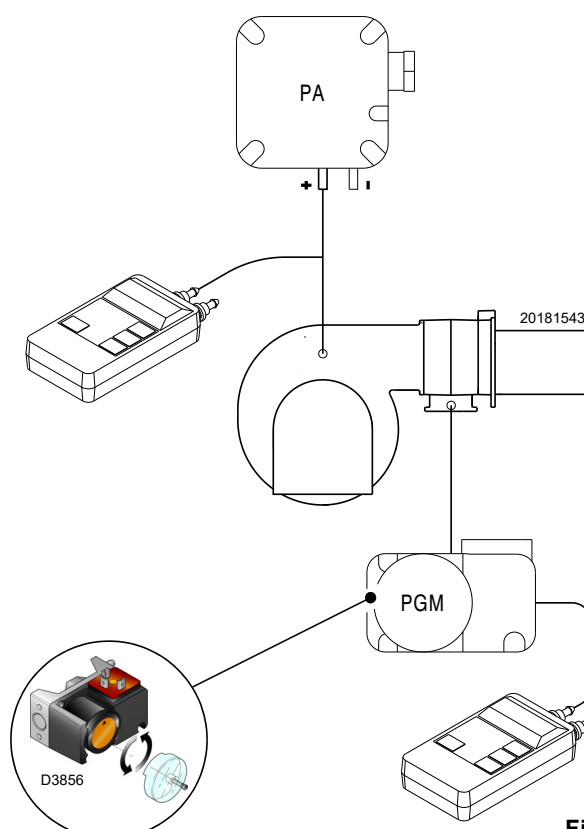

Fig. 32
- Adjust the maximum gas pressure switch (Fig. 32 at page 32) to the end of the scale.
Adjust the maximum gas pressure switch (Fig. 32) after making all other burner adjustments with the maximum gas pressure switch set to the end of the scale.